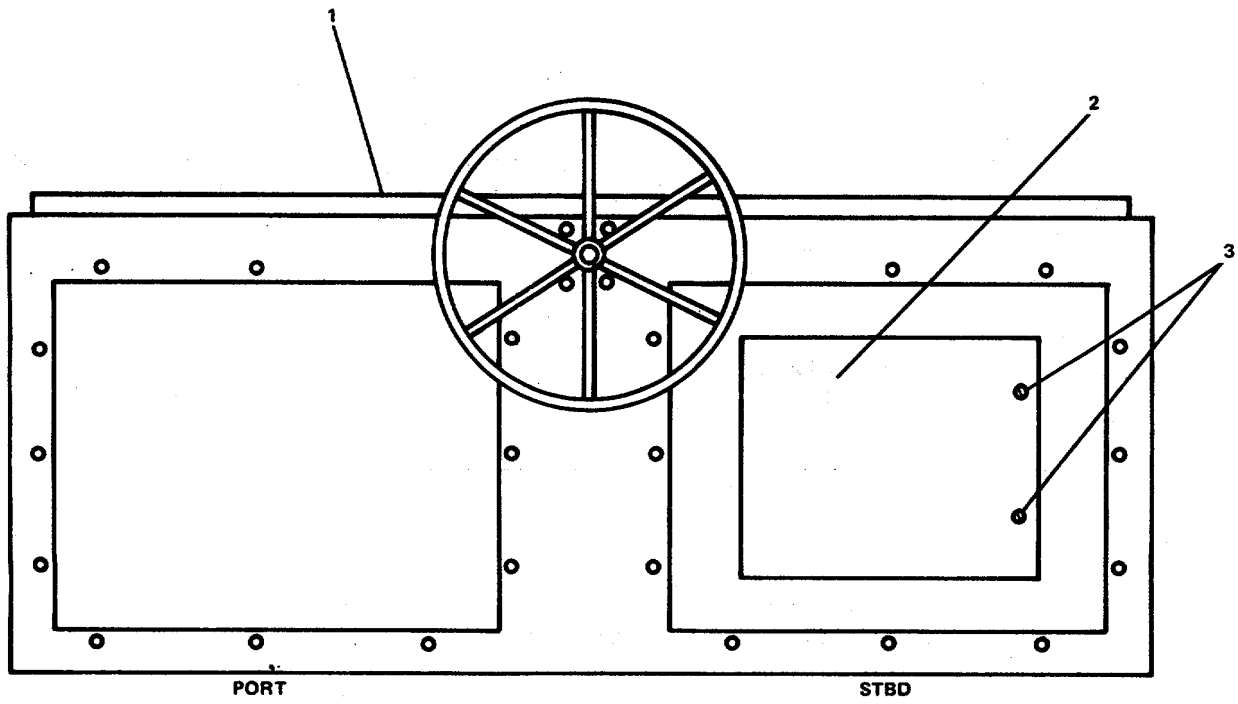

FIGURE 3-105. Pilothouse Control Console.
- a. Loosen two latching screws (3, Figure 3-105) securing starboard side access panel ,(2) to pilothouse control console (1).
- b. Connect cable to fitting (8) and remove tags.
- c. Close access panel (2, Figure 3-105) on control console (1) and secure with two latching screws (3).